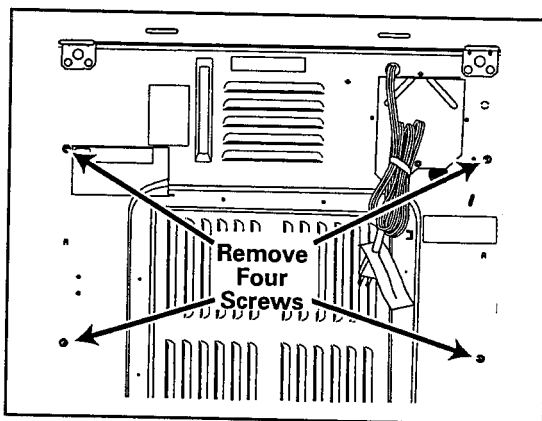

Figure 6-11
- From back of dryer, remove four screws holding tumbler back assembly and remove assembly. (See Figure 6-11)